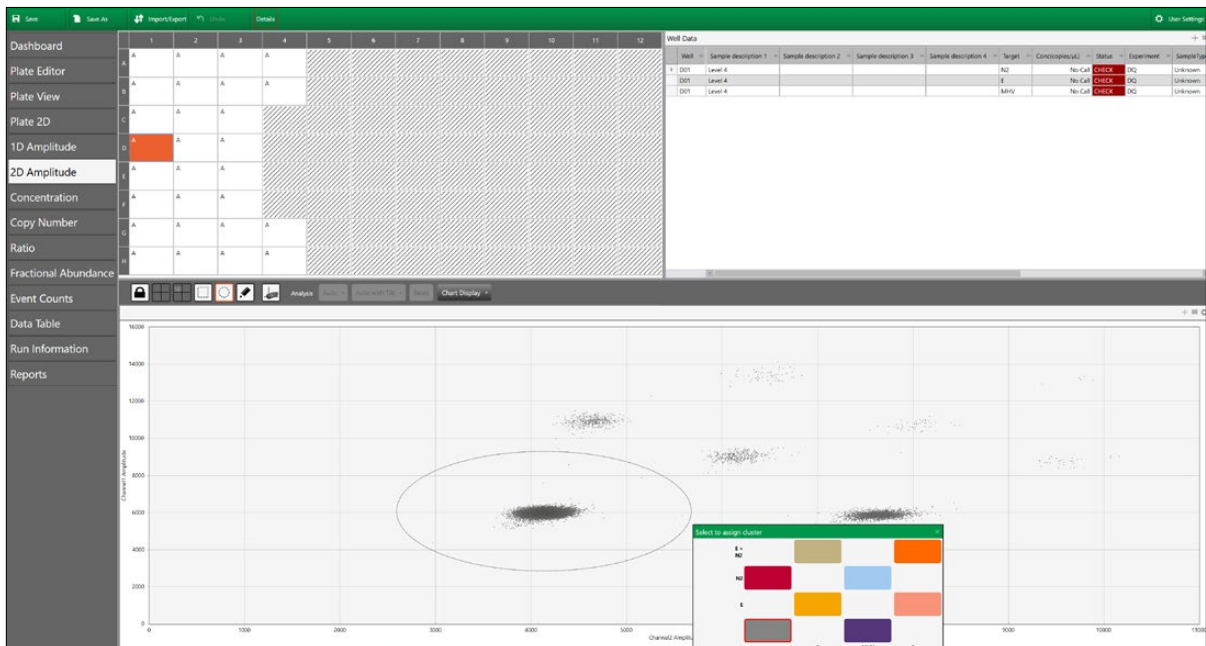

Fig. 12. Triple-negative (all negative) cluster.
4. Using the mouse cursor, start by selecting the bottom left (triple-negative) cluster. The **Select to assign cluster** window pops up. Choose the bottom left, gray assignment (Figure 12).